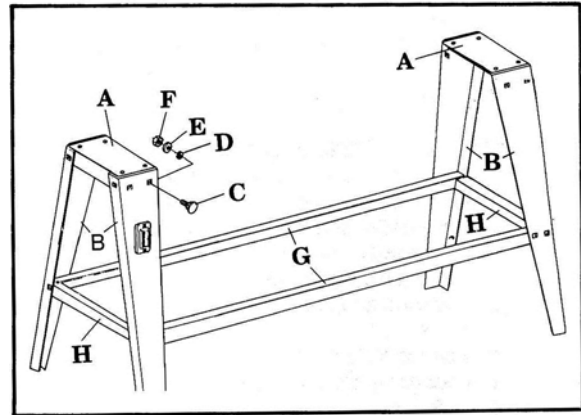

Figure 1
*Referring to Figure 1:*
1. Attach a stand top (A) to a stand leg (B) with three 5/16"x1" carriage bolts (C), three 5/16" flat washers (D), three 5/16" lock washers (E), and three 5/16" hex nuts (F). Stand top must be placed inside stand leg.